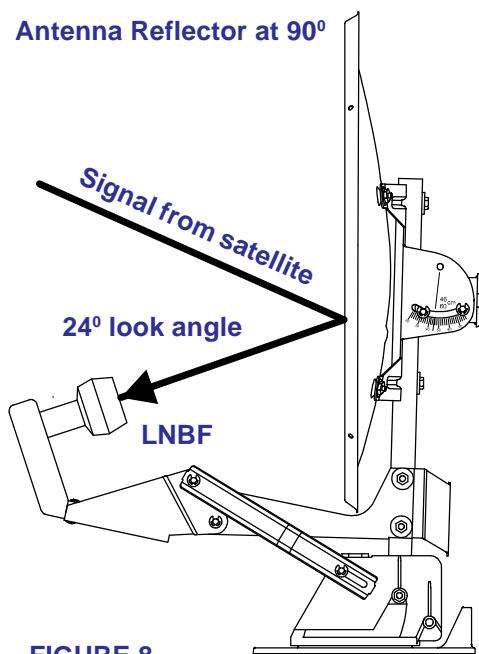

FIGURE 8
Lubricate rubber quad ring on elevating shaft which is below worm gear with silicone spray lubricant at least **twice yearly** (Figure 8). This will keep quad ring from becoming brittle which could result in leaks down elevating shaft.
4. Check that there are no obstructions blocking the view of the satellites. The signal from the satellite(s) **WILL NOT** pass through trees, buildings, mountains etc. Remember that the antenna has a 24° offset, this means that when the antenna is straight up and down (90°) it is looking 24° into the sky. See Figure 8.